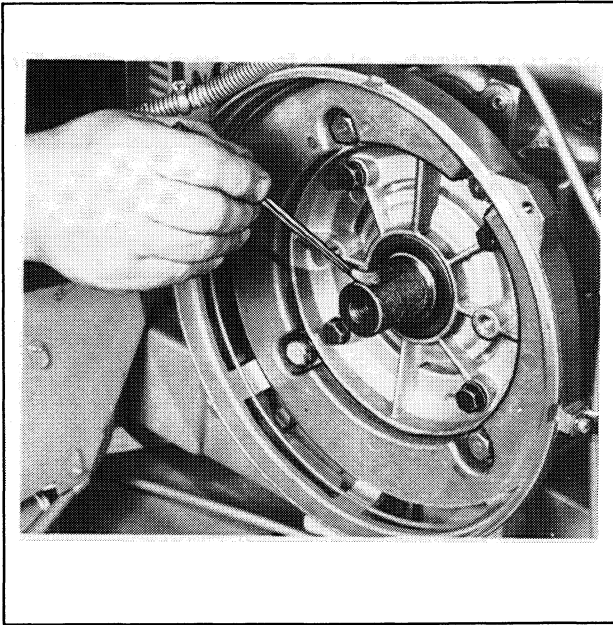

Figure 8-14. Applying Anti-Seize Compound
2. Apply anti-seize compound to the tapered end of the stub shaft. See Figure 8-14.